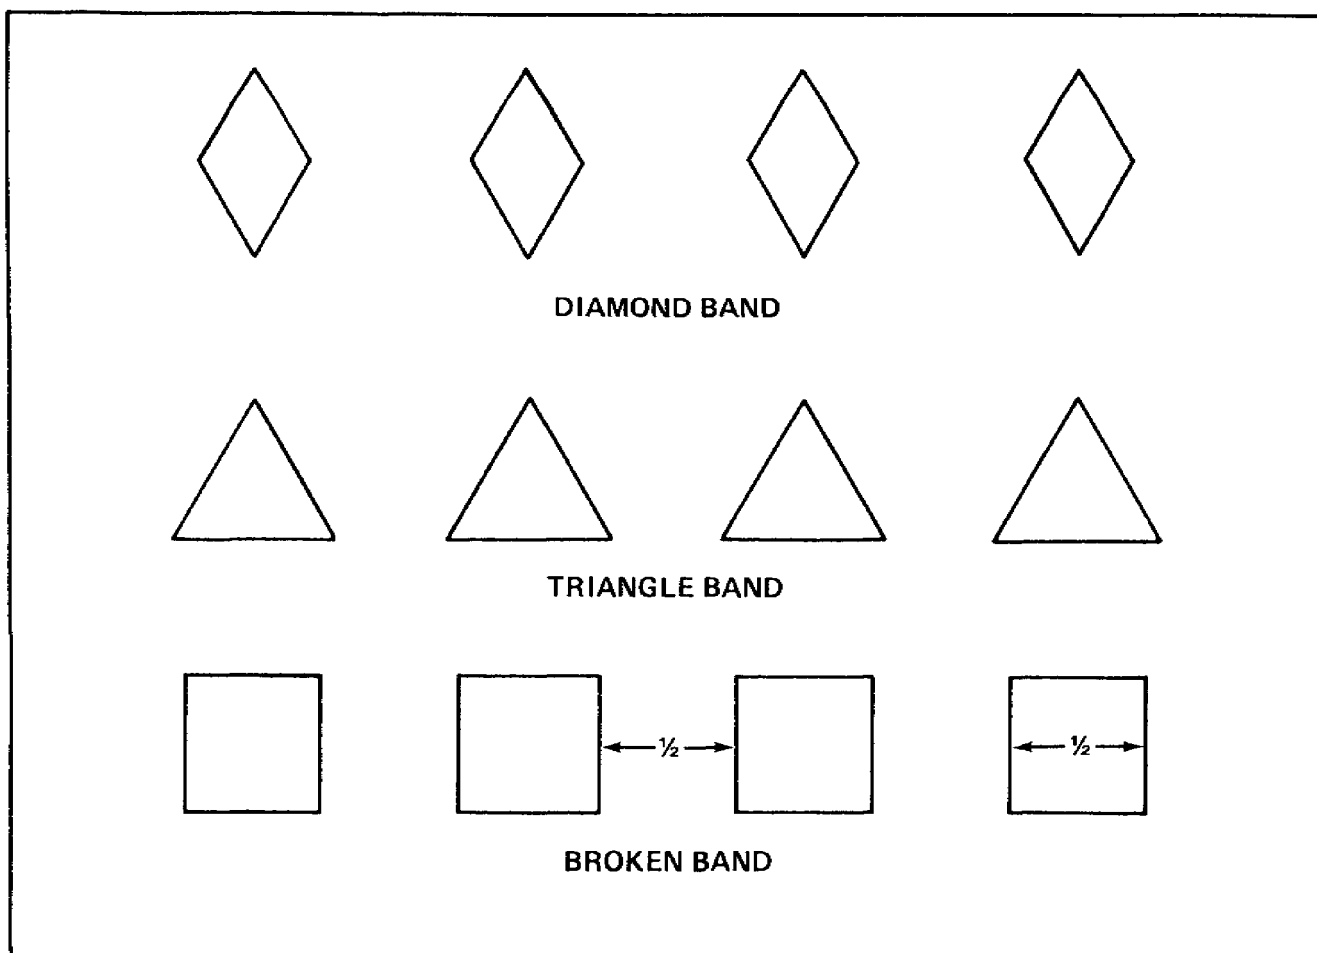

Figure 7. Special Symbols.
Special symbols (see figure 7) are used in conjunction with color codes to indicate some special features of an item. Examples include:
19. Flechette filled (see page 12 and figure 7)